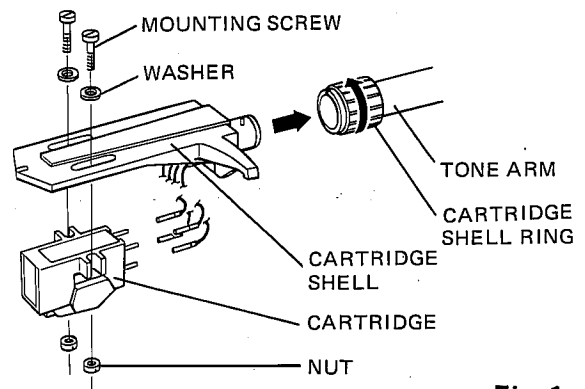

Fig. 1
3. Plug cartridge shell into tone arm and tighten cartridge shell ring by turning it counterclockwise (as seen from shell side). (Fig. 1)